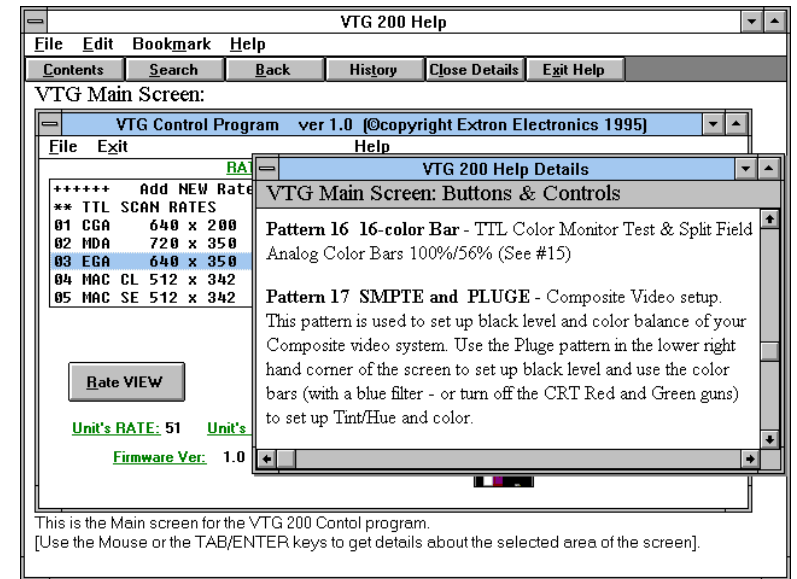

Figure 5-6B ↑
1. For information about program features, double click on the *VTG 200 Help* icon in the Extron Electronics group. Help can be accessed from its icon (stand-alone) or from within the program by the menu on the main screen or by pressing F1 from within the control program. See figure 5-6B.